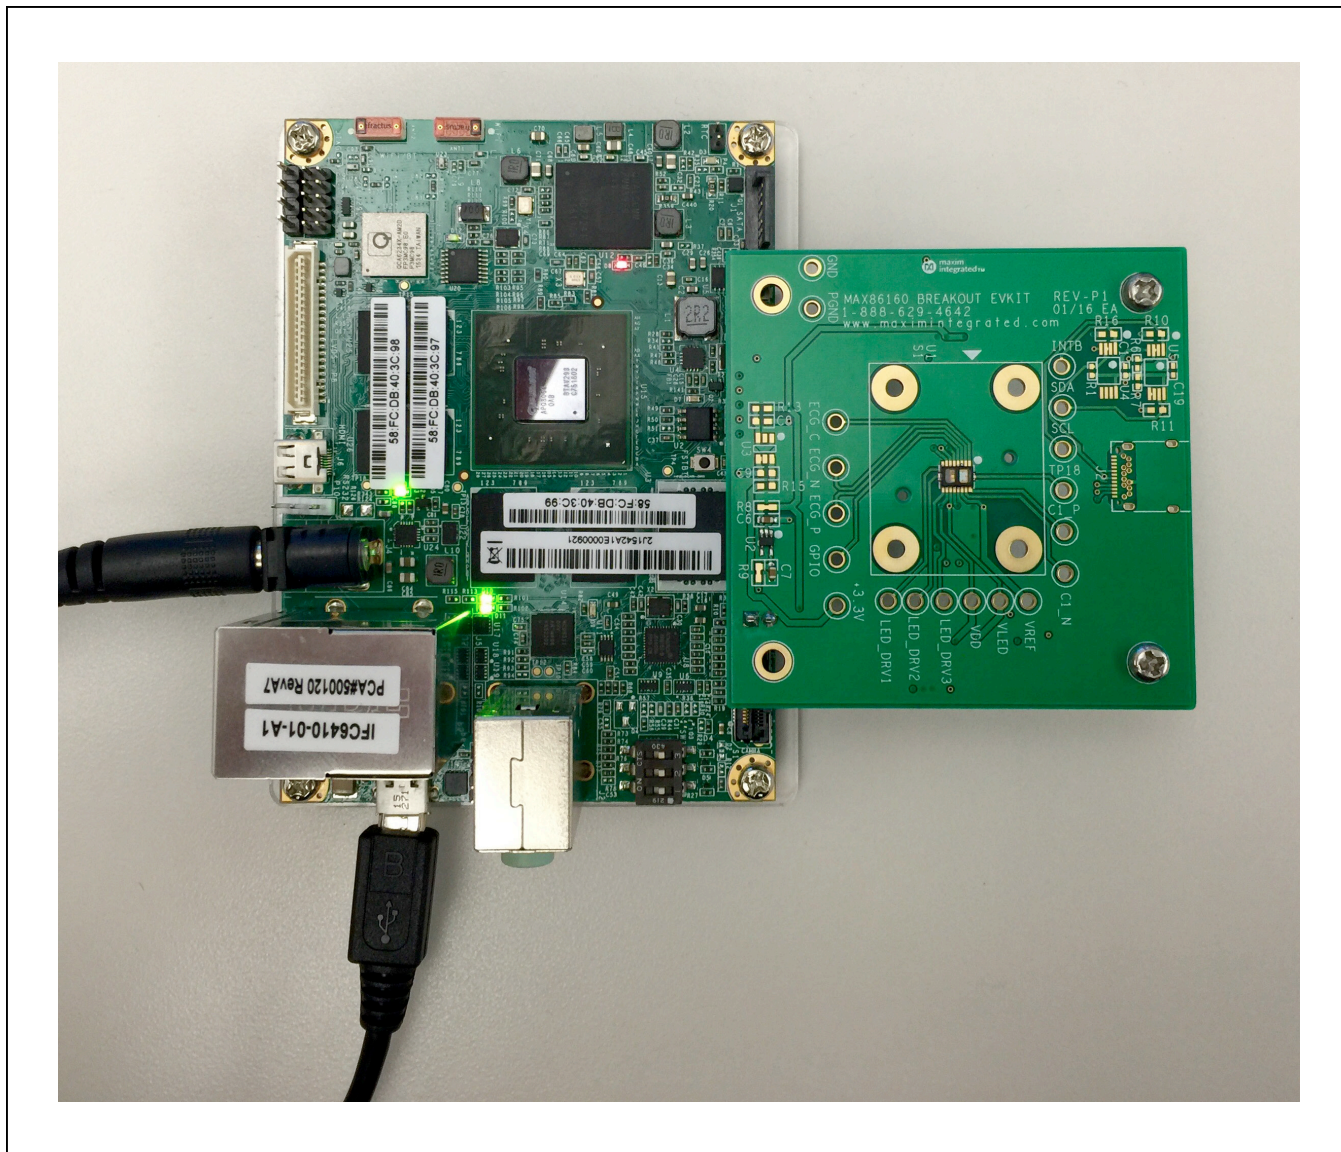

Figure 4. Hardware Setup
- 3) Connect the MAX86160 Breakout EV Kit (J4 and J5) to IFC6410 main board (P1 and P3), as shown in Figure 4.